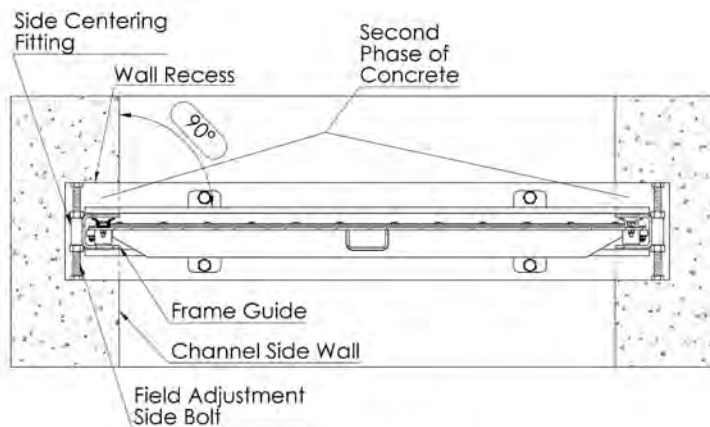

Figure 3
- Align the gate horizontally adjusting the bolts on the "Lateral Centering Fittings" (see Figure 3). Make sure that the Frame Guide is flush with the side wall of the channel. Additionally, make sure that the gate is perpendicular to the side walls of the channel.